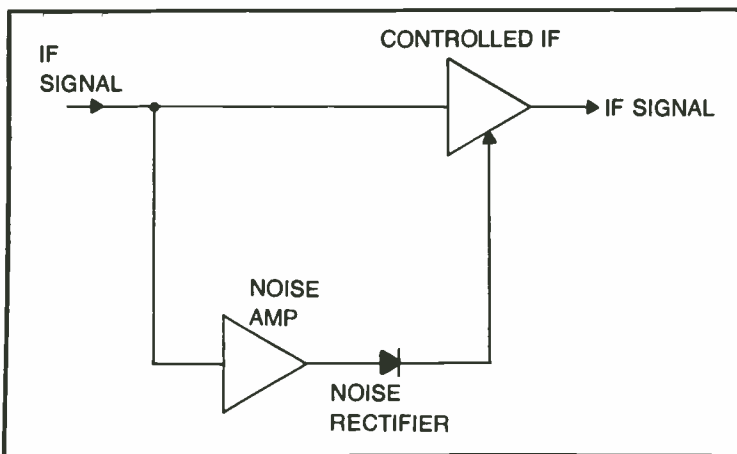

Fig. 11-6. Noise silencer.
Figure 11-6 shows the block diagram for an i-f noise silencer. This circuit was once very popular in communications receivers, but has since been surpassed in popularity by noise blanker circuits. In this circuit, either a gain controlled or a gated (on/off) i-f amplifier can be used. A noise amplifier will build up the noise signal, but this is filtered to prevent the i-f signal from being amplified an equal amount. The output of the noise amplifier is rectified and is then used to either reduce the gain or turn off the controlled i-f amplifier stage for the duration of the noise spike. This circuit works relatively well, and some alleged noise blankers are actually little more than noise silencers of this variety.
*amplifier* stage. The output of the amplifier is applied to a circuit that detects the noise pulse. This is usually something like a high-pass filter or differentiator that will depend upon the fast rising leading edge of the noise pulse in order to generate an output. The signal produced by the noise detector is similar to the control signal produced at the output of the noise rectifier in the example of Fig. 11-6. But—and this is one of the principal differences between the signals—this signal is used to fire a monostable multivibrator, or *one-shot*. The output of the one-shot is a pulse of constant amplitude (sufficient to turn off the gated i-f amplifier stage) and constant duration. This circuit will poke a much cleaner hole in the i-f signal during the noise impulse. We can adjust the duration of the turn-off pulse using a depth control to vary the width of the one-shot output pulse.